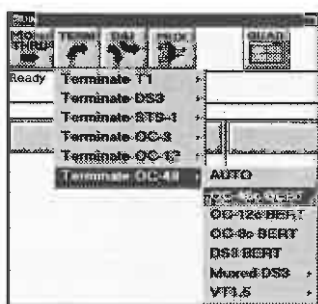

Figure 9 — Application icons with pull-down lists
- 1 **Application icon selection** — This area displays the **MON/THRU** (Monitor and Through), **TERM** (Terminate), **D&I** (Drop and Insert), **MUX** (Multiplexer), and **QUAD** (Quadruple Split Screens) icon buttons used to select a test application. Refer to Figure 9 for a display of the icons and their associated pull-down menus.